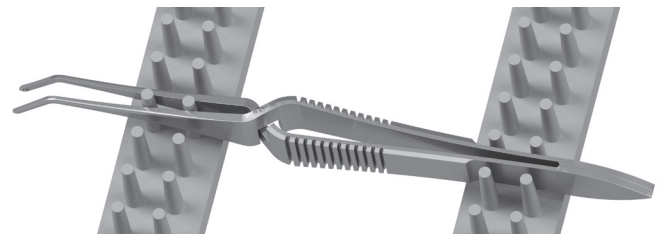

Fig. 3
- Open the joint instruments. Use a suitable storing system (see fig. 3).